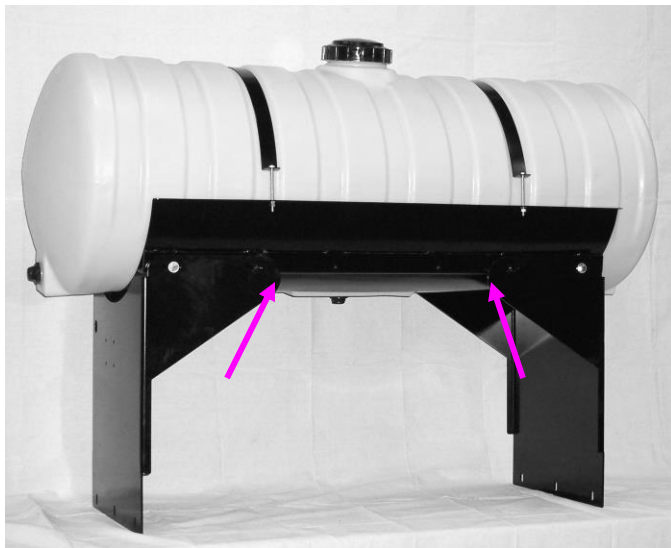

Figure 1
1. Remove the two inside bolts, locks, and flat washers shown in (Figure 1) on the side of the tank that will face the front of the baler.